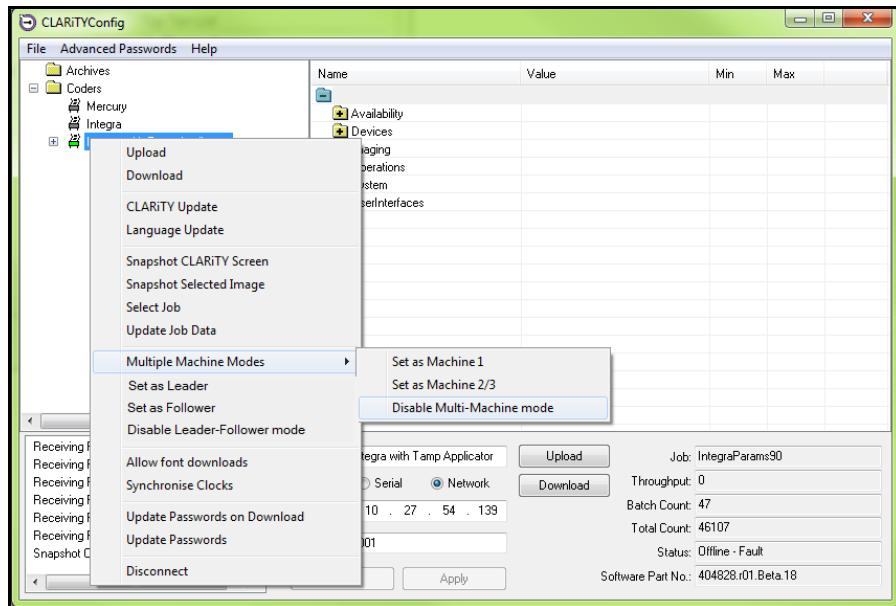

Figure 8-29: CLARiTY Config - LPA 2/3 Disabling
- 2 Right click on the 'New Printer' icon when the icon turns 'green' and Select 'Multiple Machine Modes > Disable Multiple Machine Mode', from the list as shown in Figure 8-29.